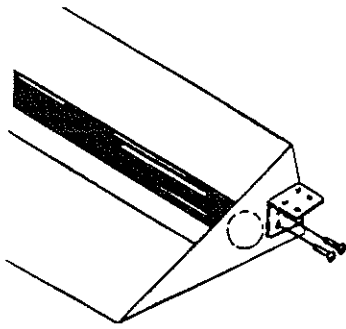

Figure 2
- Attach the pilot bracket to the burner pan by first lining up the holes of both parts and then securing them with the metal screws provided. (See Figure 2.)